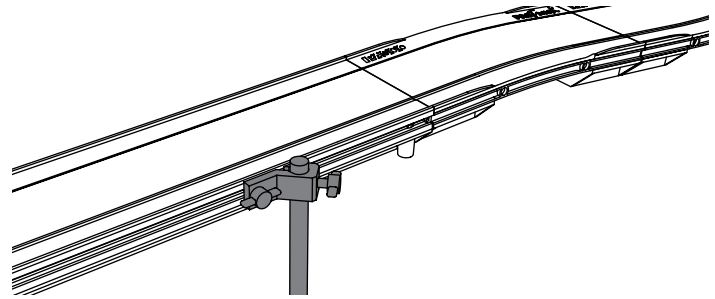

Figure 3: Pivot Clamp
3. Use rods, stands, and clamps to support the elevated straight sections (see figures 3 through 5).
The elevated straight sections of the assembled track can be supported using one of the methods illustrated in figures 3, 4, and 5. The number of support points needed depends on the length of the track. In most cases, two are sufficient.
Pivot Clamp Method Attach a Pivot Clamp (ME-9810) to the T-slot on the side of a straight section (Figure 3). Secure the Pivot Clamp at the desired height on a vertical rod. The vertical rod can be supported by a table clamp (such as ME-9376B) or by a rod base (such as ME-8976).